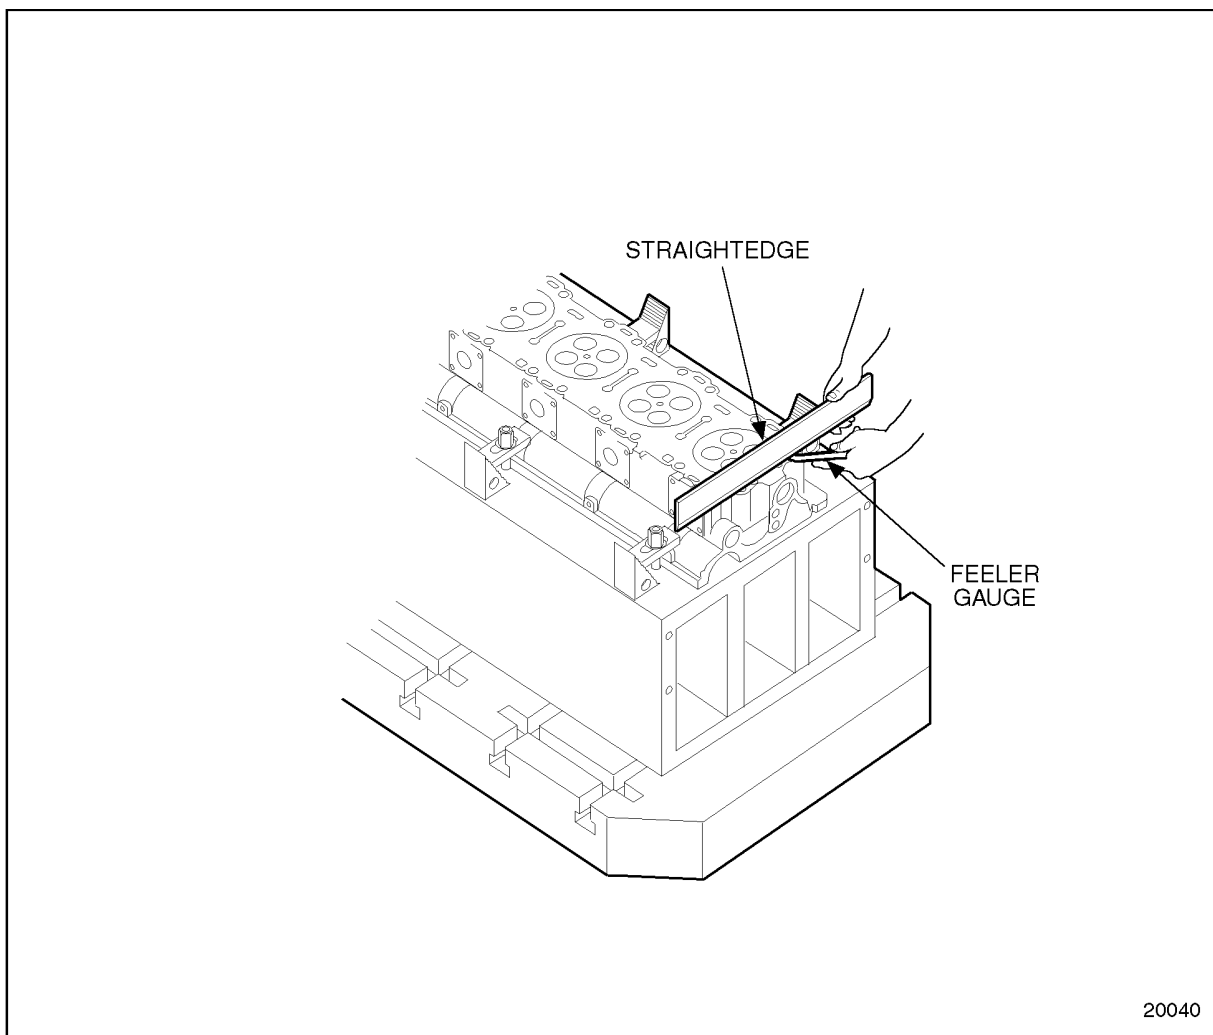

Figure 1-38 **Checking Firedeck Straightness**
1. Use a heavy, accurate straight-edge and feeler gages to check for transverse and longitudinal warpage. See Figure 1-38.